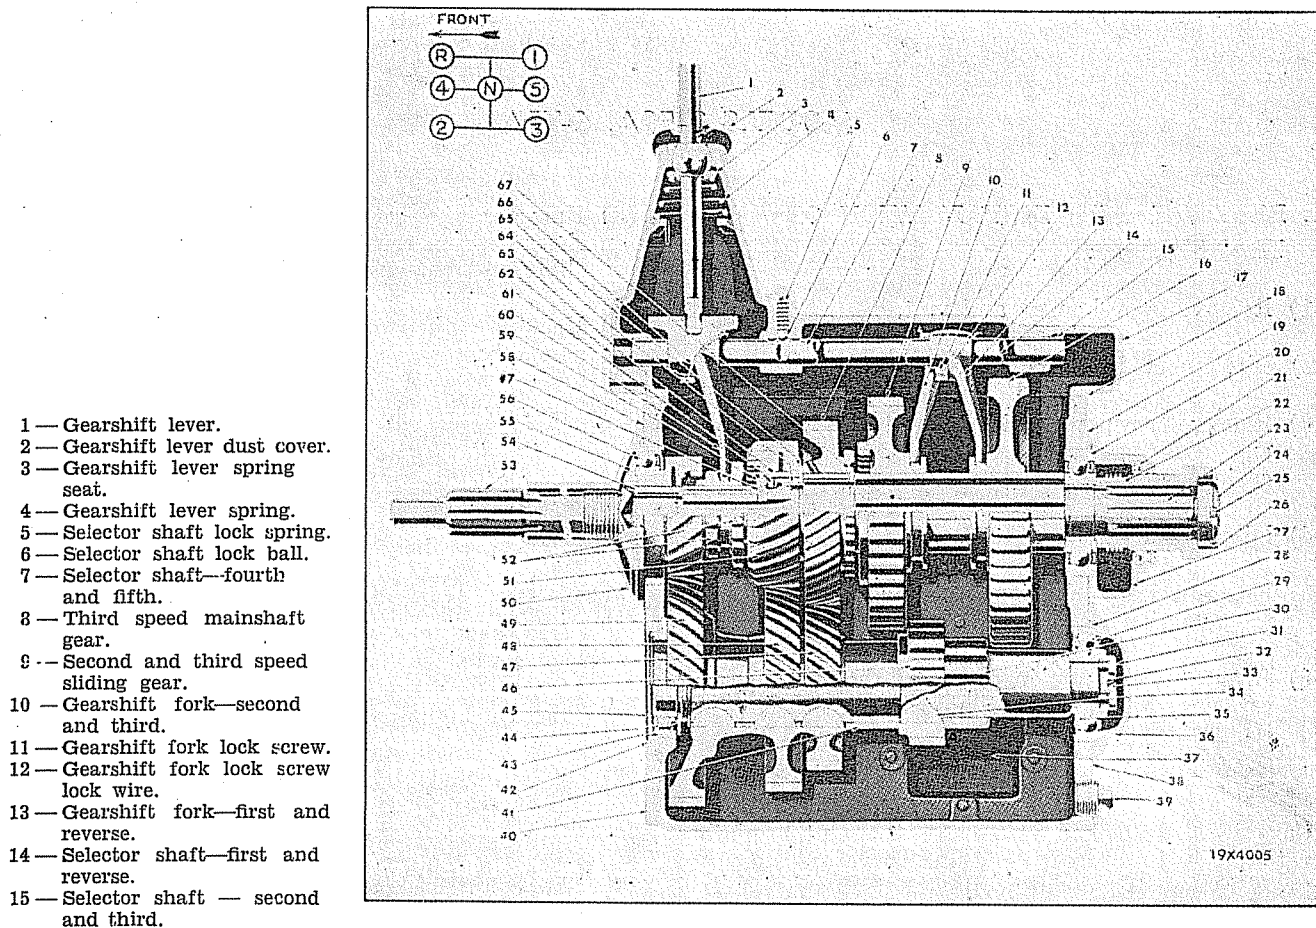

Fig. 21—5-Speed Gearbox.
14. DISASSEMBLY OF TRANSMISSION (REMOVED) Refer Figure 21.